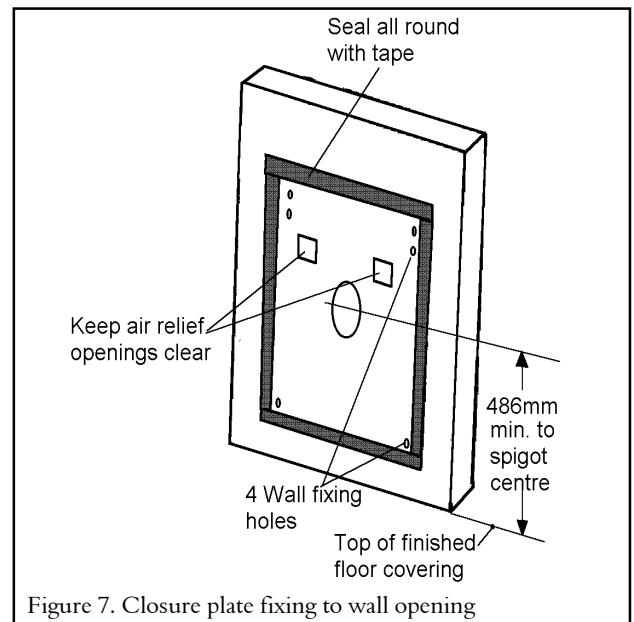

Figure 7. Closure plate fixing to wall opening
3.4.3 Wall mounting (Figure 7)